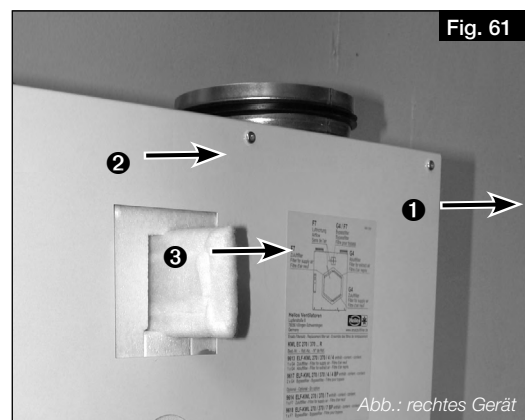

Fig. 61
2. Pull intake air filter **1** to the front and replace (see Fig. 61).
3. Pull extract air filter **2** (incl. frame) to the front and replace (see Fig. 61).
4. Optional: Pull fine/pollen filter (ePM1 50 %) **3** incl. frame to the front and replace (see Fig. 61).
① Confirm via the **easyControls 3.0** software or **KWL-BE Touch**.